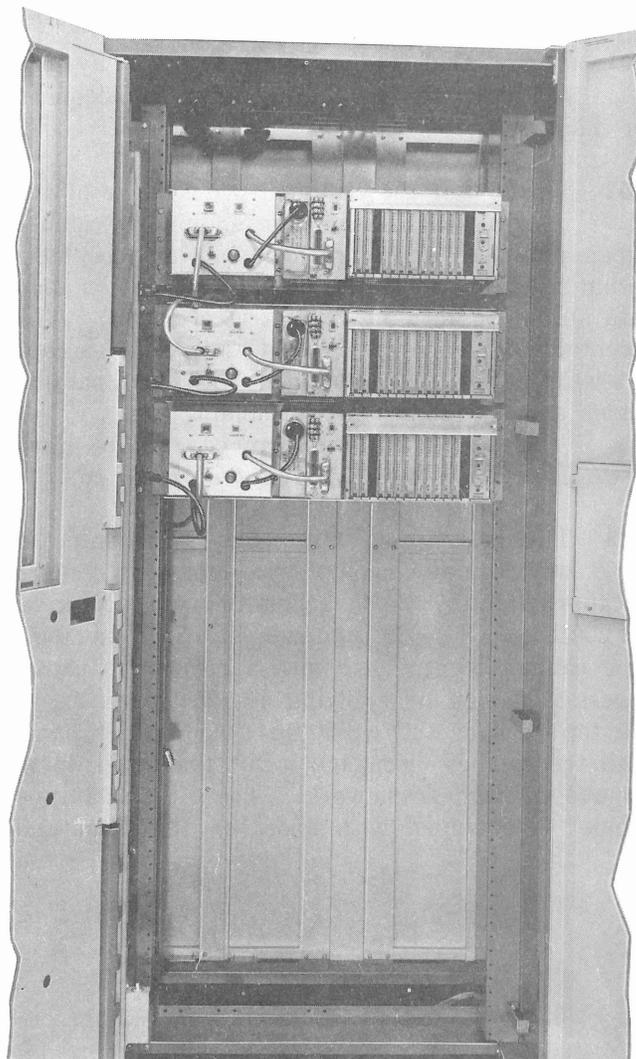

Fig. 1—Typical Data Station Installation
1.02 The data station unit used with customer provided terminal consists of Data Auxiliary Sets 820B5 and 806C1. One or more data station units constitute a data station. *The installation of station units at the data station shall be performed on a local engineering basis to best suit the number of station units provided.* A typical data station installation using a KS-20093 cabinet is shown in Fig. 1.